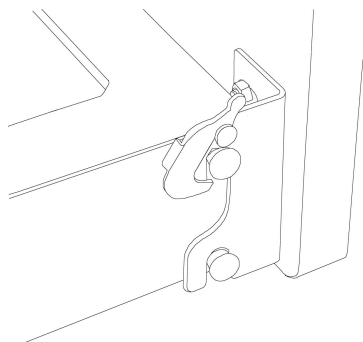

Figure 1
2. Installation of head/footboard components: The headboard is higher and is installed at the head of the bed, while the footboard is lower and is installed at the foot of the bed. Align the hooks of the head/footboard with the bed rail pins respectively, and then lock them (see Figure 1).